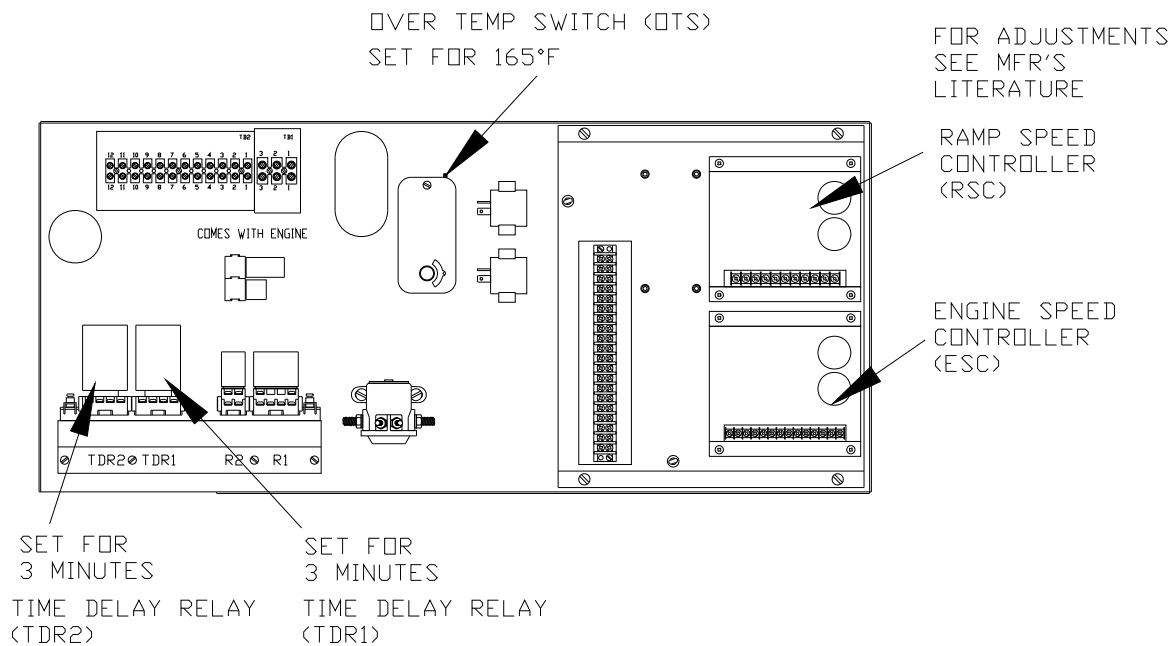

Figure 1. Relay Panel Assembly - Adjustments
The following time delay modules are located on the Relay Panel Assembly (See Figure 1.):
B. Over Temperature Safety Shutoff (See Figure 1.)